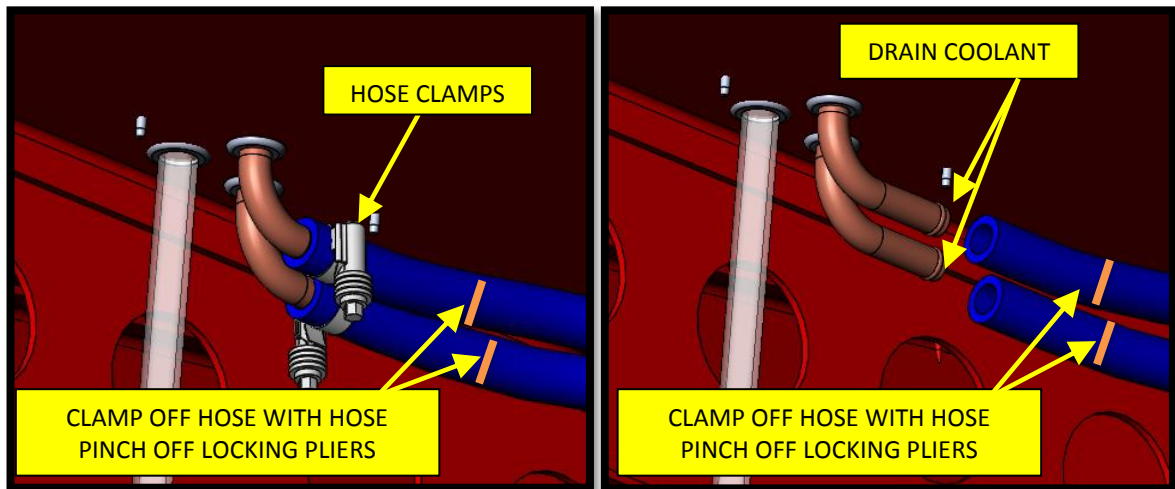

**FIG. 2-1**
2. Tilt Cab so safety bar locks into position. This will expose the heater line connections located in wheel well on officer side of cab. Refer to FIG. 2-1.